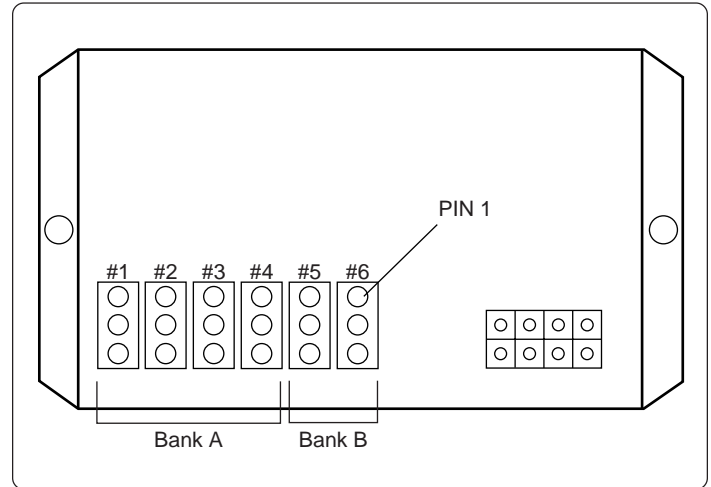

Figure 1.
6. Next, plug the other end of the cable into the Light Head Output Socket on the Flasher, see Figure 1. The location of the connector for each light head attached to the unit will be determined by the flash pattern selected, refer to the PATTERN MATRIX Chart.